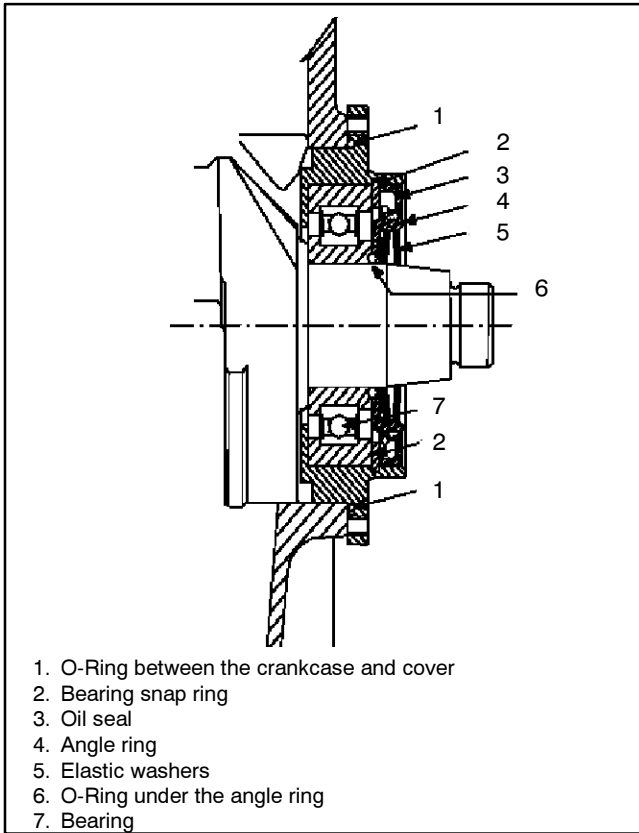

Figure 10-62 Main Bearing Cover Assembly
1. Using a hydraulic press and socket, install the ball bearing in the main bearing cover until the outer race is against its seat. See Figure 10-62.
9. Install on the outside of the main bearing cover the O-ring, the angle ring, and the two elastic washers as shown in Figure 10-62.